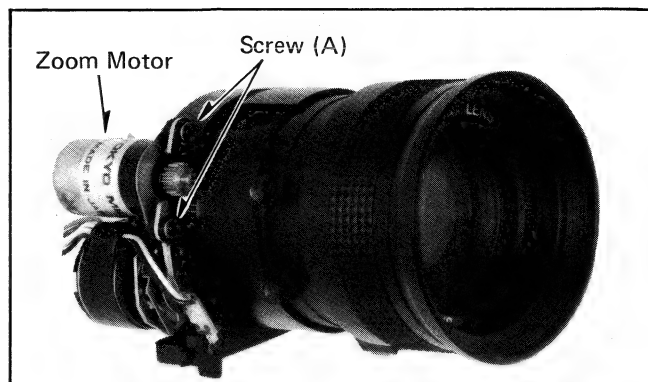

Fig. 16 Zoom Motor
5-2. Unscrew 2 screws (A) and remove the zoom motor (see Fig. 16).